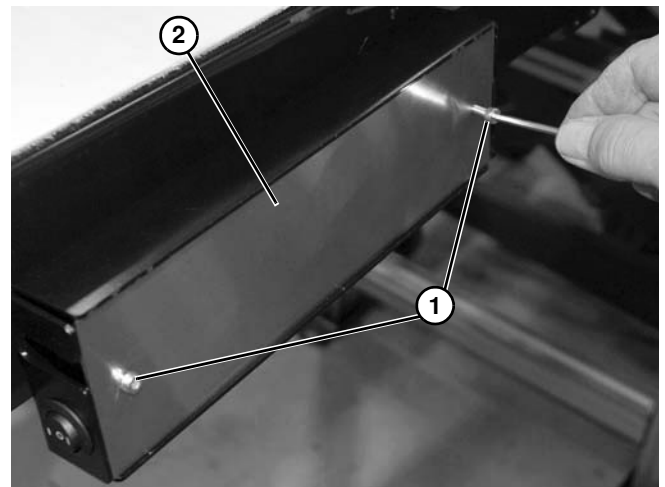

Figure 211
2. Remove two screws (Figure 211, item 1) and cover (Figure 211, item 2).